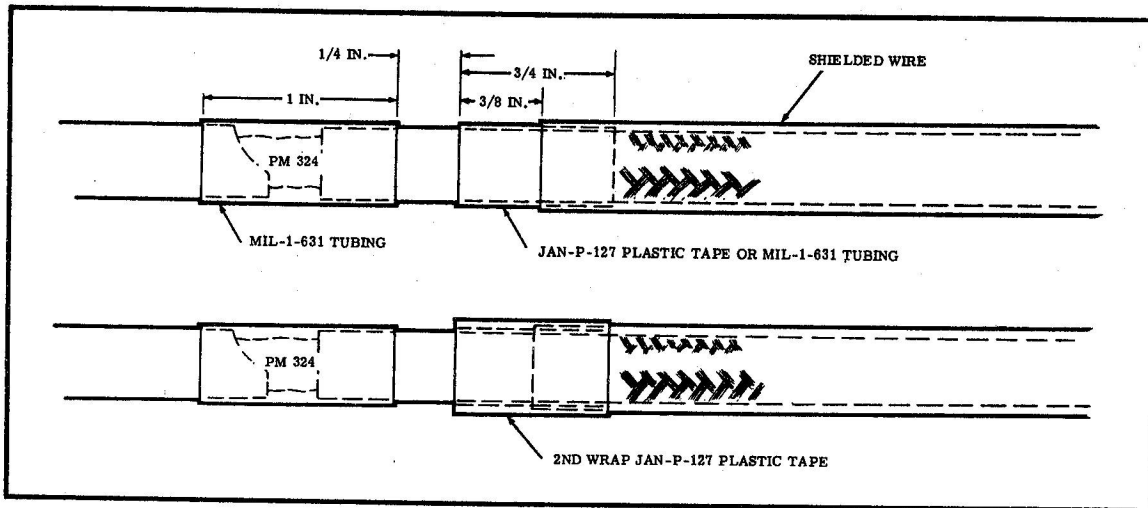

Figure 28 Taping Shielded Wires
- (a) Install a one inch length of plastic tubing over soldered joint to give a snug fit. This procedure provides additional support for the soldered joint, see Figure 28.